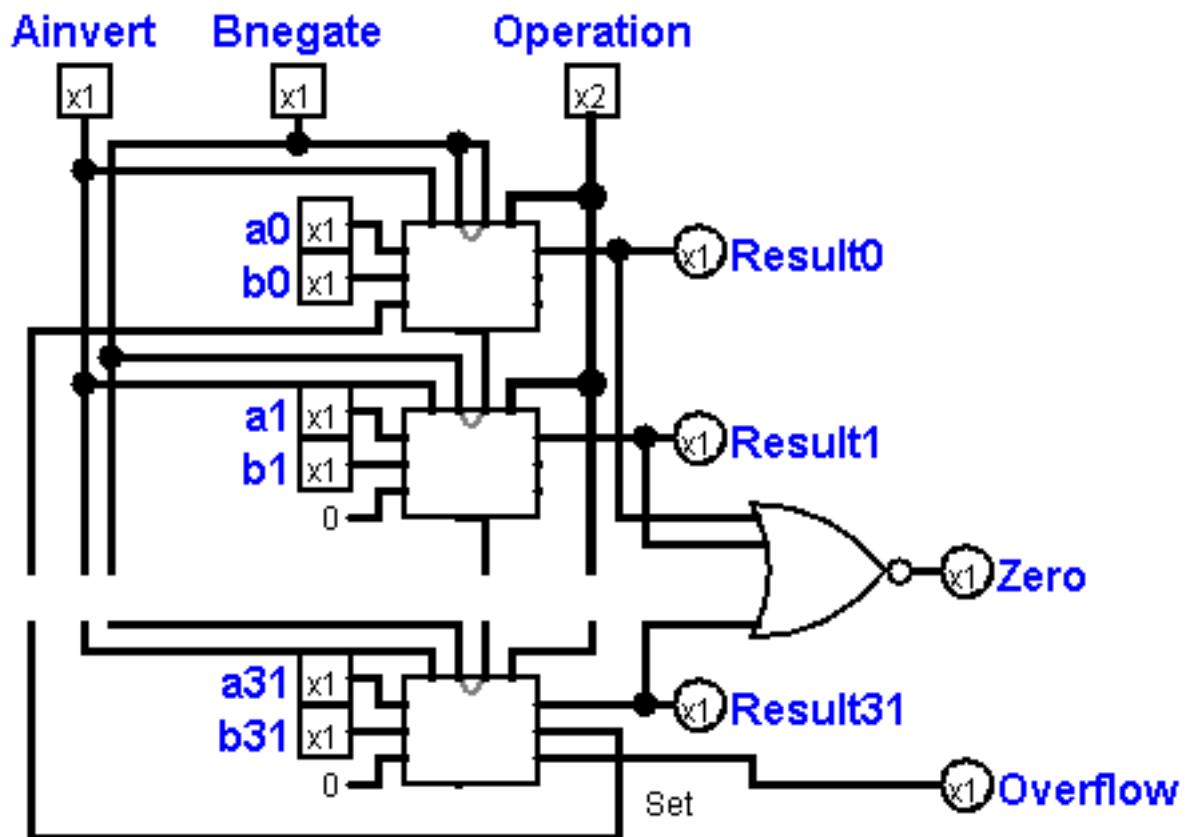

Figure 4: Final 32-bit ALU
- thus the full 32-bit ALU can be implemented as in Figure 4: